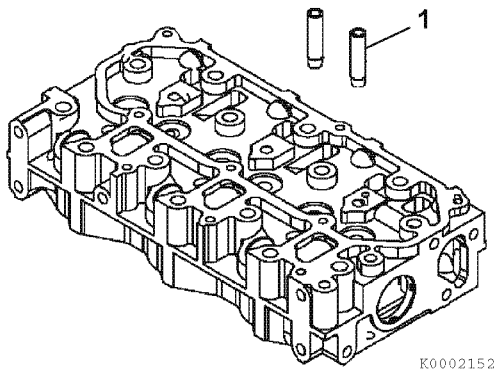

Figure 6-24
2. Immediately after removing the valve guides from the freezer, insert the valve guides (Figure 6-24, (1)) in their proper positions.